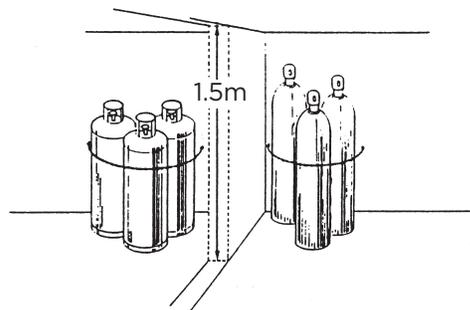

Figure 41-14: Keep Oxygen and Gas Cylinders Separated
- Do not store oxygen cylinders within 6 m (20 ft) of cylinders containing flammable gases unless they are separated by a partition at least 1.5 m (5 ft) high and having a fire-resistance rating of at least 30 minutes (Figure 41-14).